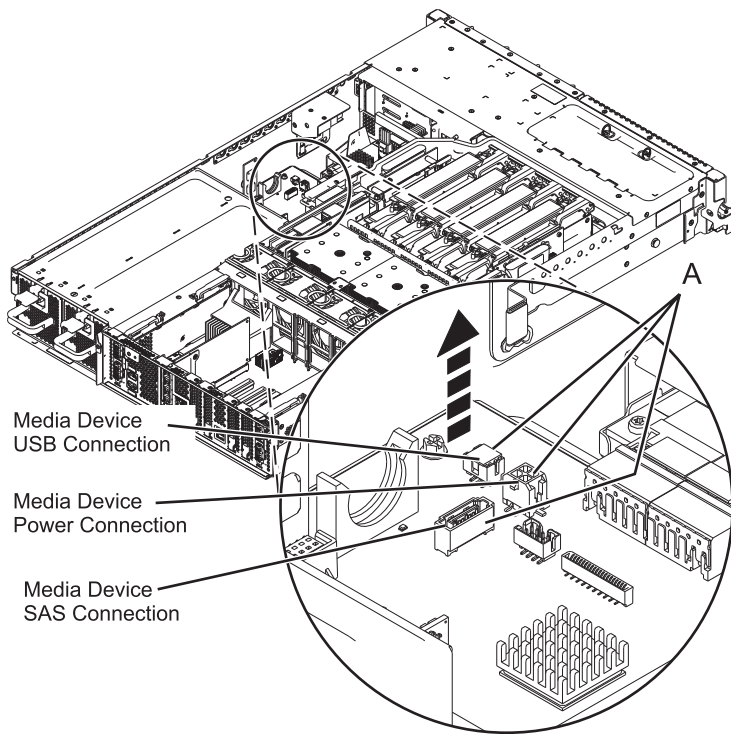

Figure 3. Disconnecting the media device cables
- c. Disconnect the media device cables **(A)**. See Figure 3 on page 8.